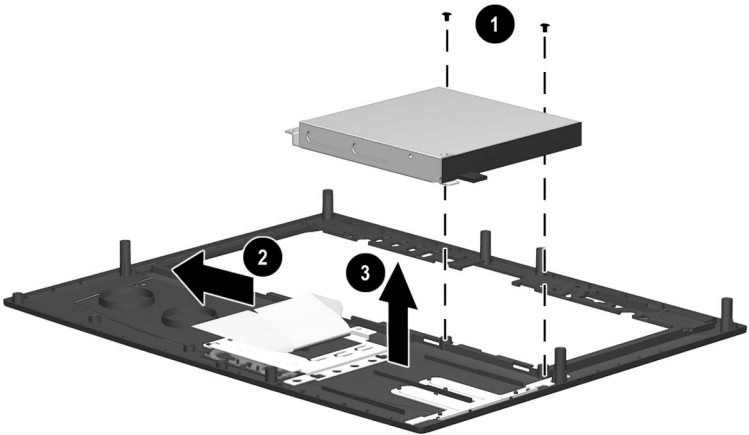

Figure 5-17: Removing the Diskette Drive
3. Remove the two M2.5 × 4.5 screws securing the diskette drive to the top cover ❶ (Figure 5-17).
4. Remove the tape adhering the diskette drive and TouchPad cables to the top cover ❷.
5. Remove the diskette drive from the top cover ❸.